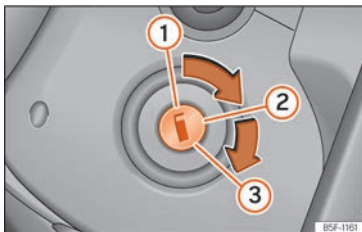

Fig. 254 Ignition key positions.
Key positions »» Fig. 254
- Turn the key to position » **Fig. 254** . Preheating occurs in diesel vehicles .
- Keep turning the key to position » **Fig. 254**  without stepping on the accelerator.
- *Vehicles with ignition locks:* Turn the key to position »» **Fig. 254** .